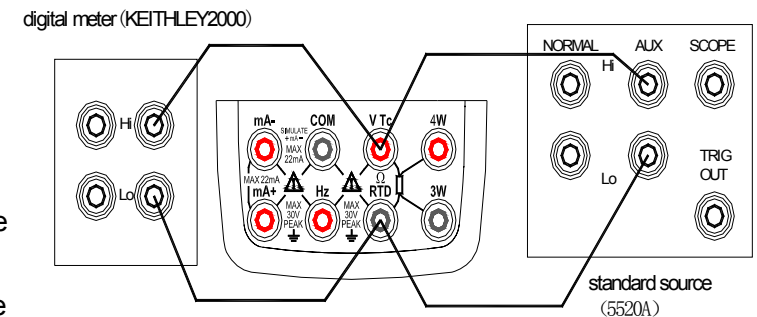

Figure 13 Adjusting resistance source
Step 1: Using the key (**OHM**), select resistance function. Connect the lead cables for measurement to the standard digital meter as shown in Figure13.